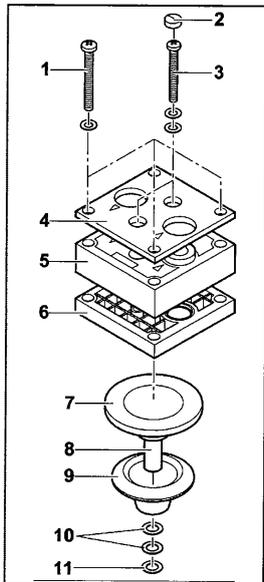

Fig. 4: Replacing structured diaphragm
3. Unscrew the four screws (Fig. 4/1) and remove the top plate (Fig. 4/4).
4. Remove the screw covers (Fig. 4/2), unscrew the two screws (Fig. 4/3) and take off the head plate (Fig. 4/5) and intermediate plate (Fig. 4/6).